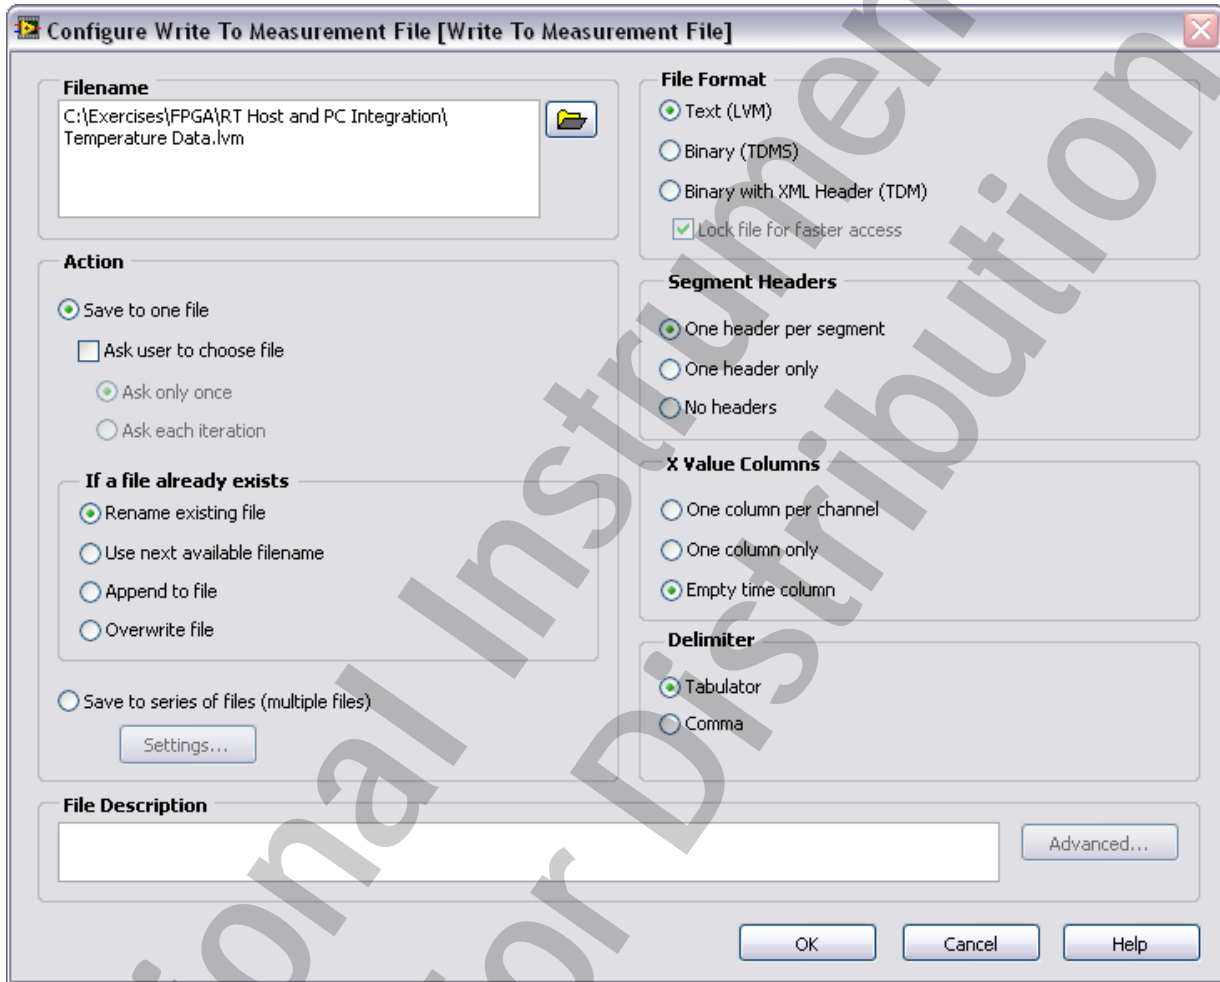

Figure 8-9. Write to Measurement File Configuration
- ☐ When the configuration dialog box opens, configure it as shown in Figure 8-9 and click **OK**.